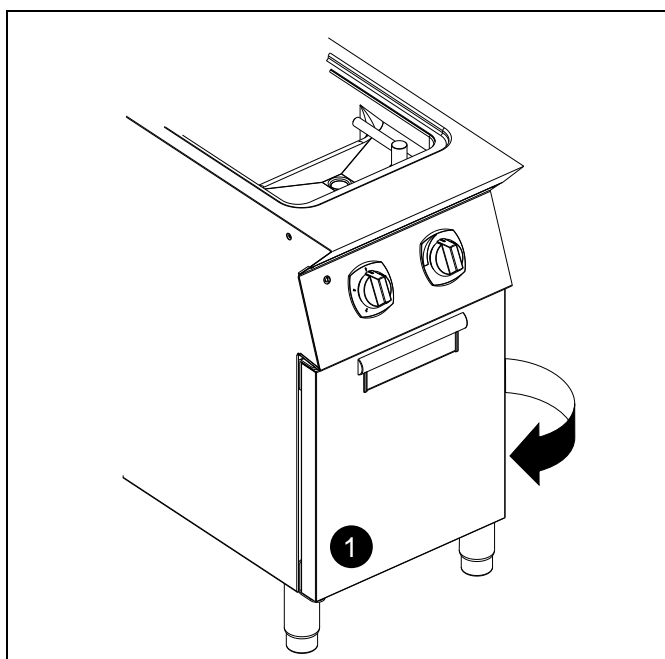

Fig. 5
1. Open the module door to access the terminal board (see detail 1 — Fig. 5).